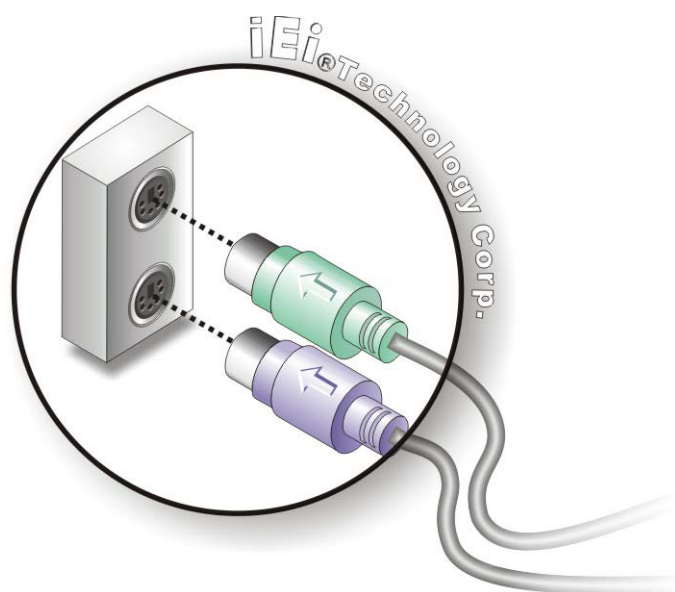

Figure 4-14: PS/2 Keyboard/Mouse Connector
Step 2: Insert the keyboard/mouse connector. Insert a PS/2 keyboard or mouse connector into the appropriate PS/2 connector on the external peripheral interface connector. See Figure 4-14.